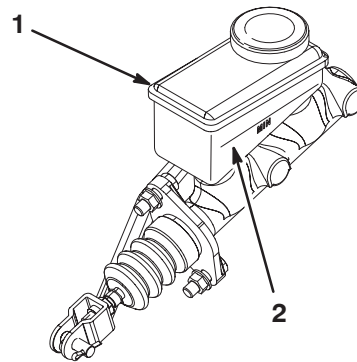

Figure 32
- Look at the side of the reservoir. The level should be above the Minimum line (Fig. 32). If the fluid level is low, clean the area around the cap, remove the cap, and fill the reservoir to above the Minimum line. **Do not overfill.**